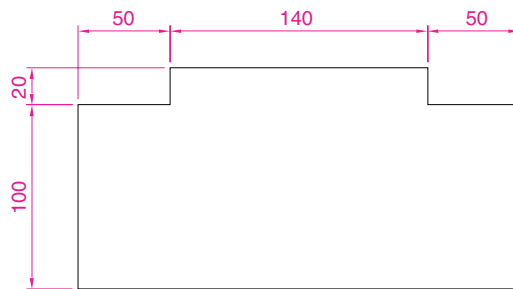

Fig. 6.10 First example – horizontal and vertical dimensions
First example – hor and ve (*Horizontal and vertical*) – Fig. 6.10
1. Construct the outline in Fig. 6.9 using the **Line** tool. Its dimensions are shown in Fig. 6.10.
The result is shown in Fig. 6.10.